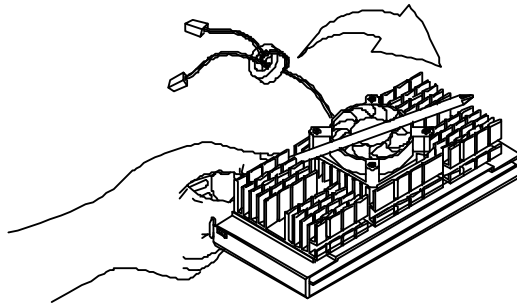

Figure 1-8 Locking a Wide Clip End
2. With the processor module golden fingers pointing downward, align the processor to the posts of the retention mechanism then lower it down. See Figure 1-8.